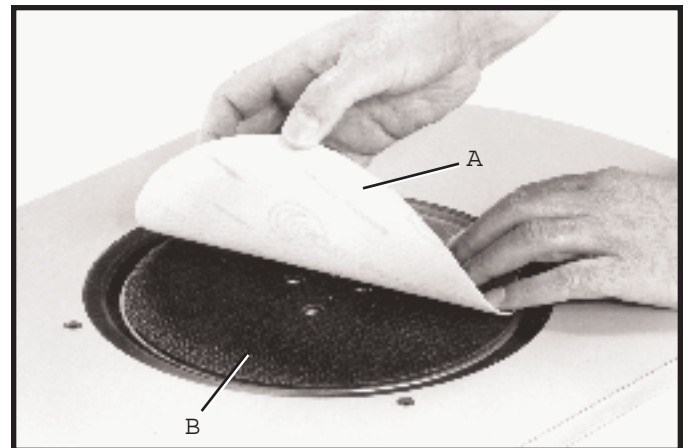

Fig.23
If you are using the hook and loop backed abrasive disc, simply position hook and loop abrasive disc (A) Fig. 23, directly onto disc plate pad (B). **NOTE:** If you are changing over from using a hook and loop abrasive disc to a pressure sensitive abrasive disc, refer to section **ASSEMBLING ABRASIVE DISCS TO DISC PLATE** .